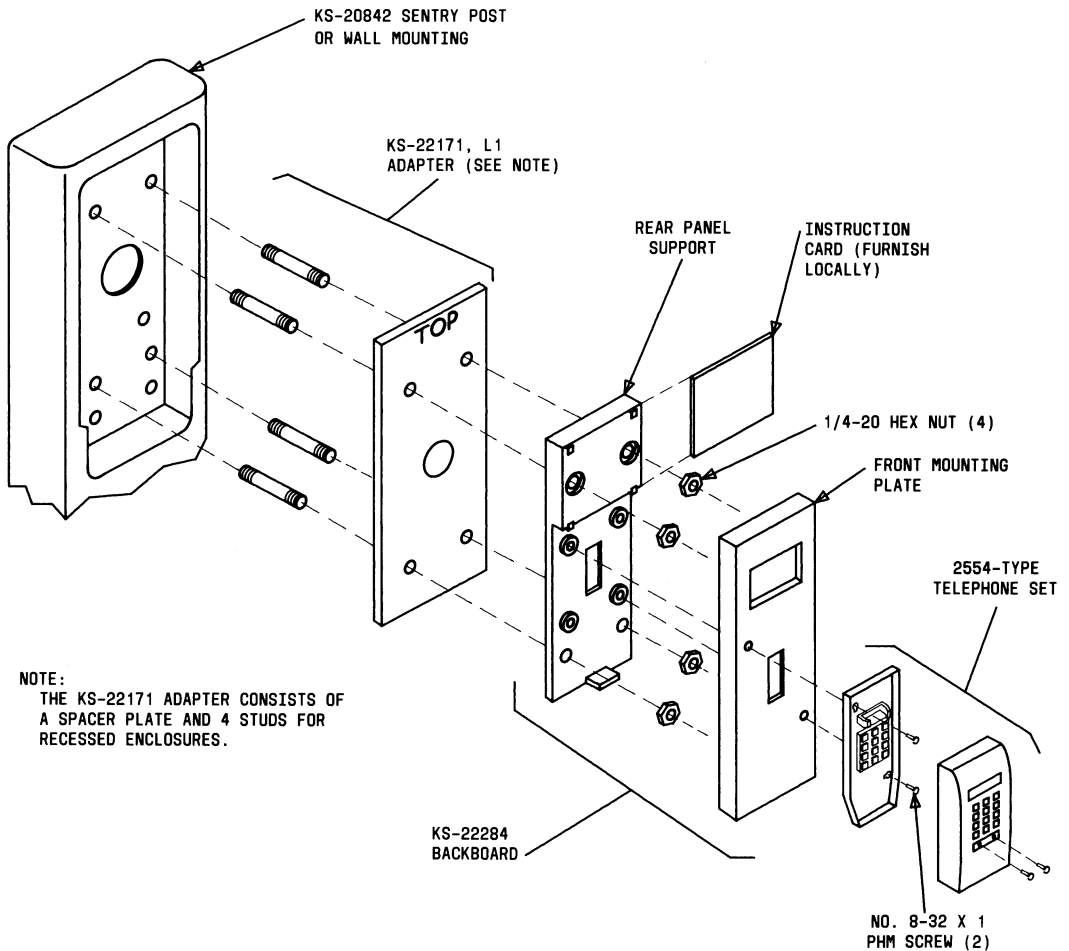
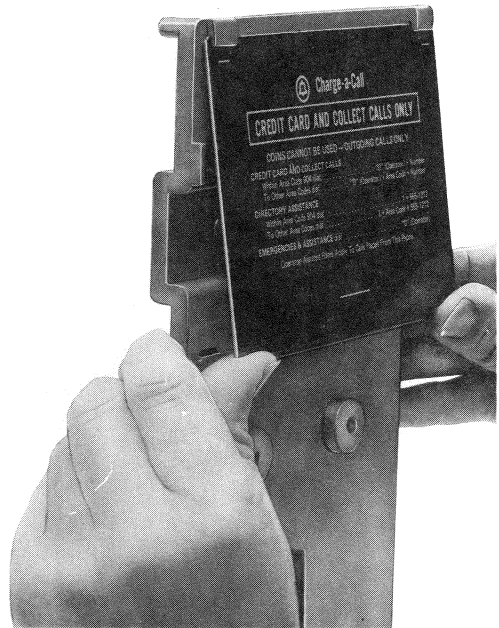

Fig. 10—KS-22284 Backboard and 2554-Type Telephone Set Used With Adapter
Fig. 12—Installing Instruction Card On Rear Panel Support of KS-22284 Backboard
**2.22** Any closure that will accept a 1-type coin telephone set will accept this backboard, however, when a recessed enclosure is encountered, such as the SENTRY mounting or wedge shelf, a KS-22171, List 1 adapter (Fig. 10) is required.
**Note:** For a recessed enclosure (SENTRY Mounting and Wedge Shelf) use a KS-22171, List 1 adapter (Fig. 10).
- (1) Place top of card under tabs on panel (Fig.12).
- (2) Push back and down under bottom tabs.
- (3) Ensure that card is seated properly.
**D. 2554B-03 (MD), Modified 2554B-03 (MD), or Modified 2554BMP-03 Telephone Set**
*Note:* The nonmodular 2554B-03 (MD) set is desired for "Charge-a-Call" service when using the KS-22284 backboard; however, a 2554BM-03 (MD) or 2554BMP-03 wall set can be modified and used for this purpose.
**3.17** Place the front mounting panel over the rear panel support and install two No. 8-32 by 1 PHM screws furnished (Fig. 10). Do not tighten the two screws; they are also used to mount the base of the wall set.